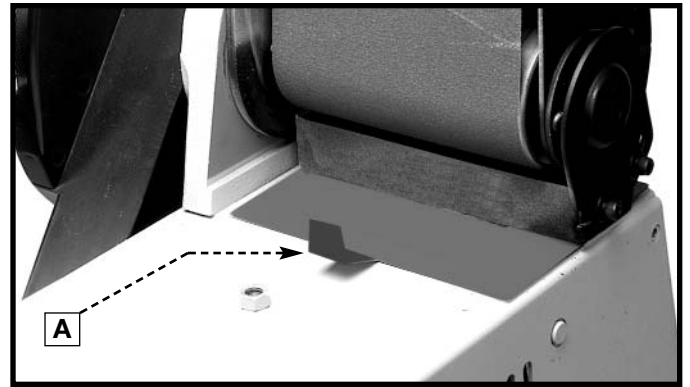

Fig. 34
- If you are sanding with the belt, pull the dust shield (A) Fig. 34 outward.